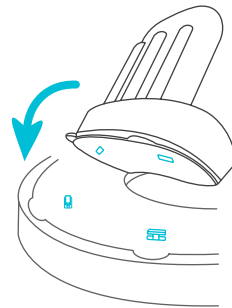

Fig. 5b
- All toys must be aligned with their single or double tab housings on the activity center tray (Fig. 5b). Set the toy base in alignment with the tabletop fitting. From underneath the tabletop push the lock up and turn it left to lock.